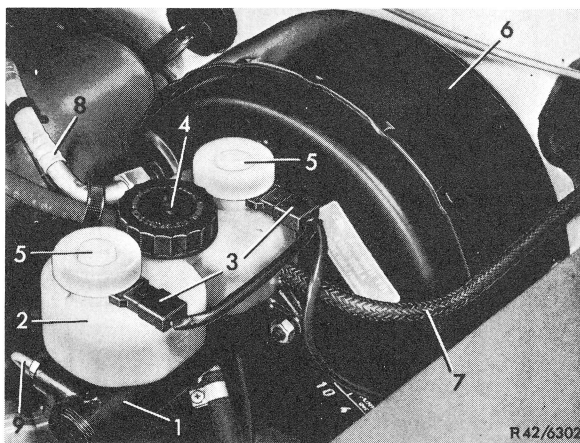

Fig. 1
**2** Loosen plug connections (3) on contact inserts of warning device, while lifting holding lugs by means of a small screw driver (Fig. 1).